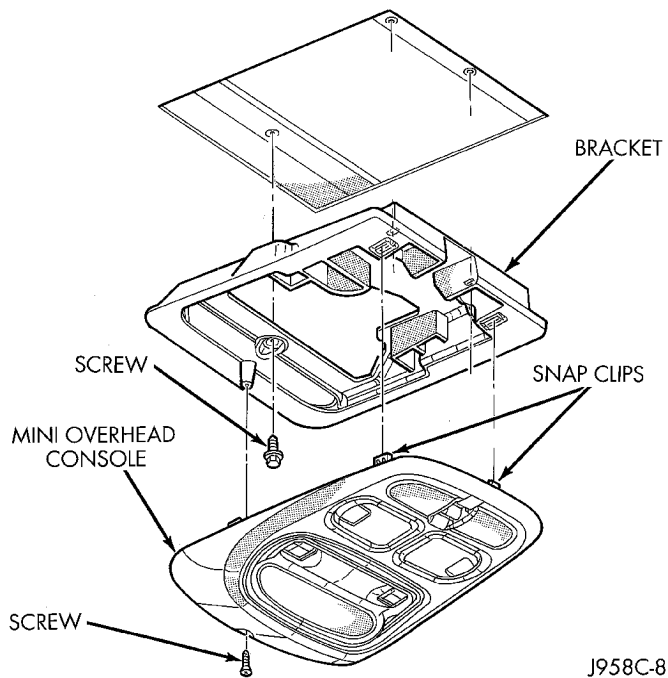

Fig. 4 Overhead Console Remove/Install - Short-Type
(1) Disconnect and isolate the battery negative cable.
(2) Remove the single screw located forward of the display module that secures the overhead console to the upper windshield opening reinforcement (Fig. 4).